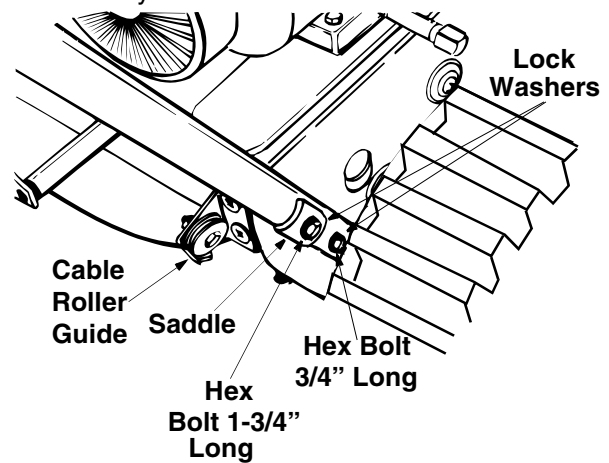

Figure 7
- Raise the handle assembly into the upright position and align the top holes in the handles with the top holes in the snow thrower frame. Attach using hex bolts, lock washers and saddles. (Curve in saddle must match the curve in the handle.) See Figure 7.